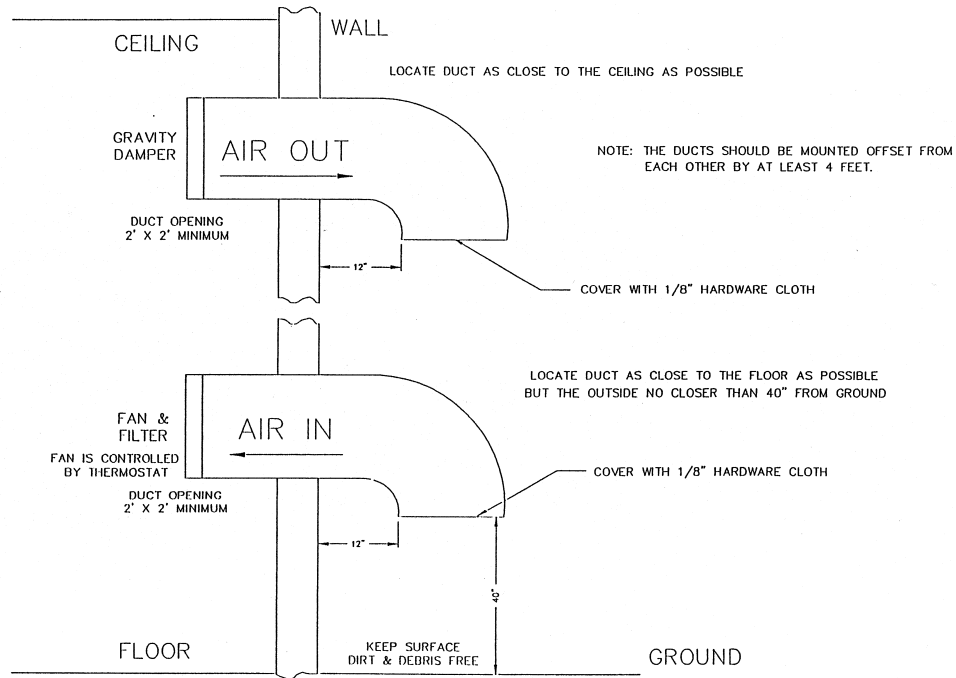

Figure 3-1. 1 kW Minimum Ventilation Configuration
| <p>6. The filter area must be large enough to insure a maximum air velocity of 300 cubic feet per minute through the filter. This is not a conservative number but a never-exceed number. In a dusty or remote location, this number should be reduced to 150 CFM.</p> <p>7. The inlet and outlet(s) must have automatic dampers that close any time the ventilation blower is off.</p> <p>8. In those cases in which a translator is regularly off for a portion of each day, a temperature-differential sensor that controls a small heater must be installed. This sensor will monitor inside and outside temperatures simultaneously. If the inside temperature falls to within 5° F of the outside temperature, the heater will come on. This will prevent condensation when the ventilation blower comes on and should be used even in the summer.</p> <p>9. A controlled air bypass system must be installed to prevent the temperature in the room from falling below 40° F during translator operation.</p> <p>10. The blower should have two speeds, which are thermostatically controlled, and are interlocked with the translator. The blower on high speed must be capable of moving the required volume of air into a half inch of water pressure at the required elevation. The free air delivery method must not be used.</p> <p>11. Regular maintenance of any filters can not be overemphasized.</p> | <p>12. Above 4000 feet, for external venting, the air vent on the cabinet top must be increased to an 8-inch diameter for a 1 kW transmitter and to a 10 inch diameter for 5 kW and 6 kW transmitters. An equivalent rectangular duct may be used but, in all cases, the outlet must be increased by 50% through the outlet screen.</p> <p>13. It is recommended that a site plan be submitted to Axcera for comments before installation begins.</p> <p>In calculating the blower requirements, filter size, and exhaust size, if the total load is known in watts, 2000 CFM into ½ inch of water will be required for each 5000 watts. If the load is known in BTUs, 2000 CFM into ½ inch of water will be required for each 17,000 BTUs. The inlet filter must be a minimum of seven square feet, larger for dusty and remote locations, for each 5000 watts or 17,000 BTUs. The exhaust must be at least four square feet at the exhaust screen for each 5000 watts or 17,000 BTUs.</p> <p>The information presented in this section is intended to serve only as a general guide and may need to be modified for unusually severe conditions.</p> <p>A combination of air conditioning and ventilation should not be difficult to design (see Figure 3-1).</p> <p>System interlocking and thermostat settings should be reviewed with Axcera. As with any equipment installation, it is always good practice to consult the manufacturer when questions arise. Axcera can be contacted at (724) 873-8100.</p> |